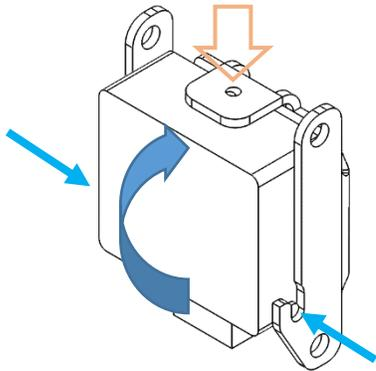

Figure 7: Sensor Assembly
8. Install collision sensor into collision sensor carriage by locating the two (2) protrusions on each side and rotating the sensor back into the carriage as shown in Figure 7. Depress the tab on top to secure the sensor.